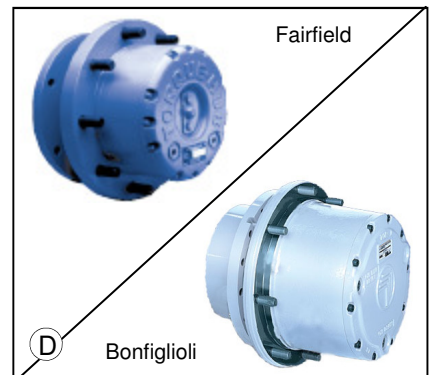

FIG. 4.1B-4
**CUMMINS ENGINE AND TANDEM PUMP**– The STS 10 comes standard with a 215hp Cummins diesel engine (fig. 4.1B-1). The engine has a direct mounted Sauer-Danfoss 90 Series tandem hydrostatic pump (fig. 4.1B-2). More information on the operation of the engine is on the next page.